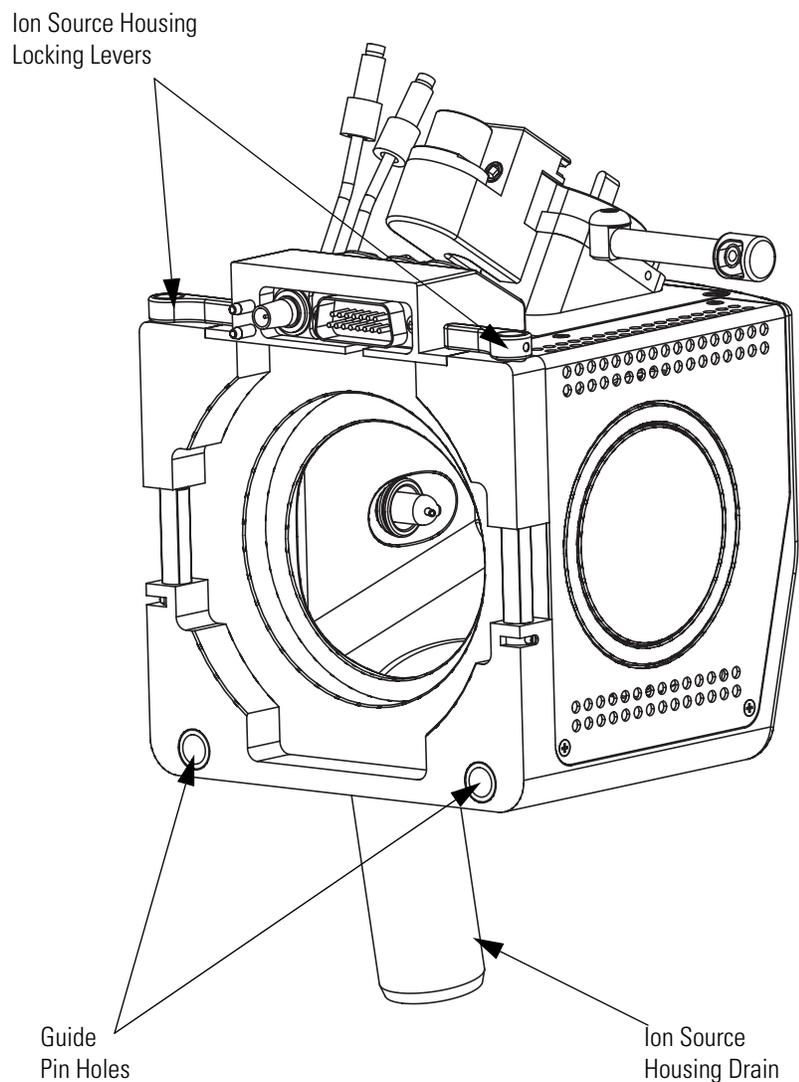
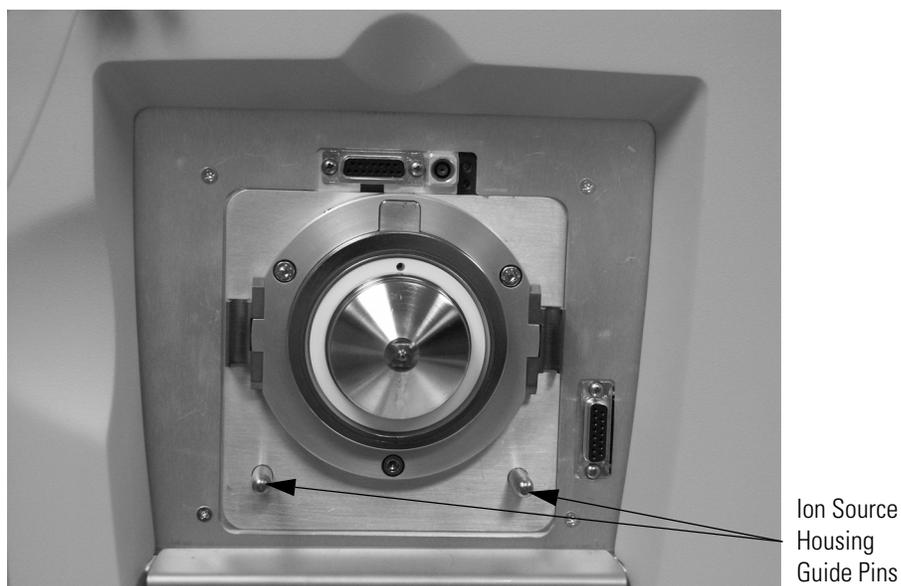

Figure 53. Rear view of the Ion Max ion source housing
Figure 54. Ion source mount showing ion source housing guide pins
1. Carefully align the two guide pin holes on the rear of the ion source housing with the ion source housing guide pins on the MS detector, and carefully press the ion source housing onto the ion source mount. See Figure 53 and Figure 54.